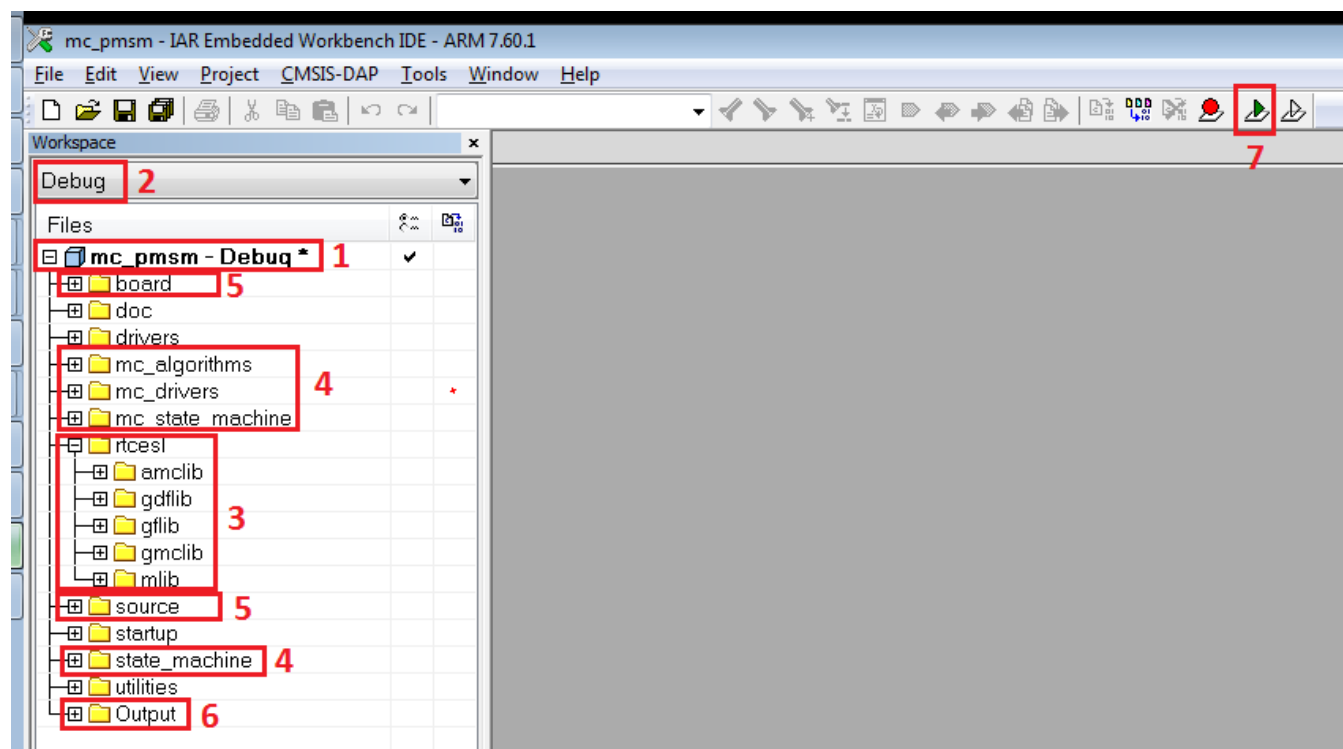

Figure 15. IAR Embedded Workbench
The project opened in IAR Embedded Workbench is fully configured and includes all source and header files required by the application, such as startup code, clock configuration, and peripherals’ configuration. You can choose from two compiling conditions (“debug” or “release”), as shown in Figure 15, point 2. Each of the two conditions has its own setting:
The source code shown in Figure 15 includes these source files and folders:
- Point 6—shows the output file generated by the compiler which is ready to use with the default debugger (P&E Micro OpenSDA). This debugger is set as default for the Tower System boards, and can be changed in the project options by right-clicking Point 1, selecting “Options”, and clicking “Debugger”. Start the project debugging by clicking Point 7 (Figure 15).